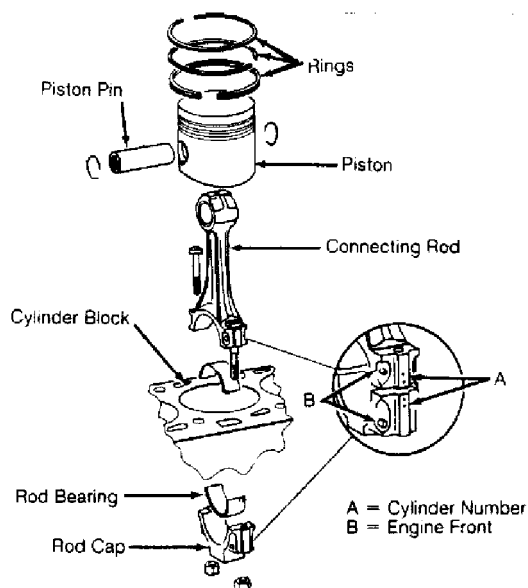

Fig. 15: Assembling Piston & Rod
1) Make sure piston, rod and rod caps are marked with matching cylinder number prior to removal. Ensure engine front arrow is marked on top of piston and front mark exists on rod and cap. See Fig. 15. Pistons and rods are to be replaced in sets of 4. Rod cap bolts and nuts must be replaced after removing or loosening.
2) Mark piston in relation to pin. Remove circlips from ends of pin bore. Use Piston Pin Replacer/Installer (VW 207C) for 1.8L engines or Piston Pin Replacer/Installer (VW 222A) for 2.0L engines to remove and install piston pin. If pin is too tight, heat piston to 140°F (60°C). Ensure rod is properly positioned with piston. See Fig. 15.
Measure ring end gap. Measure ring side clearance with piston. If not within specification, replace as necessary. See PISTONS, PINS & RINGS table under ENGINE SPECIFICATIONS at end of article. Install rings on piston with TOP mark facing upward. Recessed edge on outside of center ring must face piston pin (down). Position ring gaps on piston at 120 degree intervals. See Fig. 15.